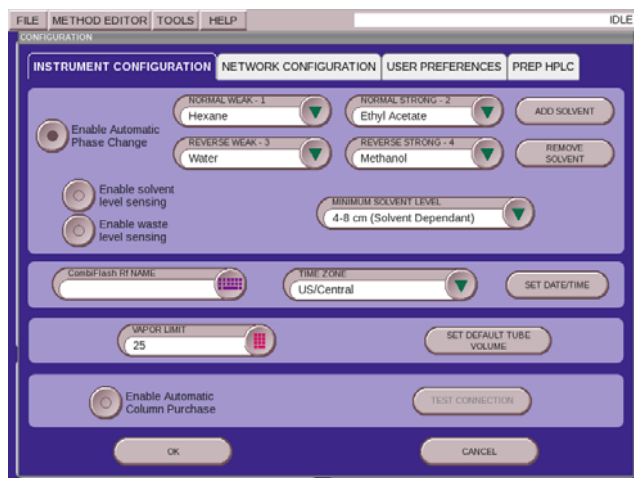

Figure 2: Solvent names and strengths
3. By selecting OK the screen now shows the solvent strength above the respective solvent name (Figure 2).